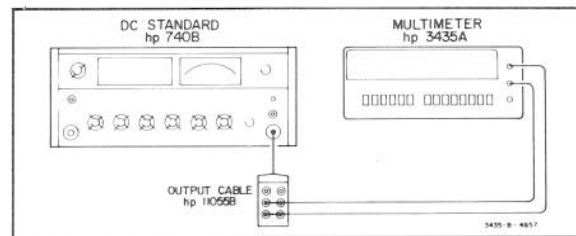

Figure 5-8. DC Gain Adjustment.
- Connect the 740B output to the Multimeter input as shown in Figure 5-8.